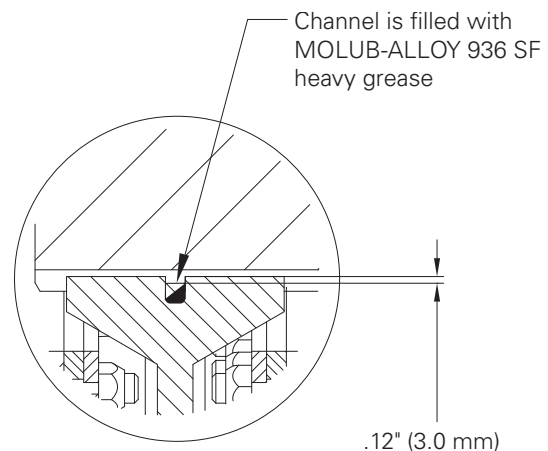

Figure 3
- 2.2.6 Pre-fill the grease channel in the friction disc splines (if applicable) with MOLUB-ALLOY® 936 SF Heavy or equivalent grease, as shown on Figure 3.